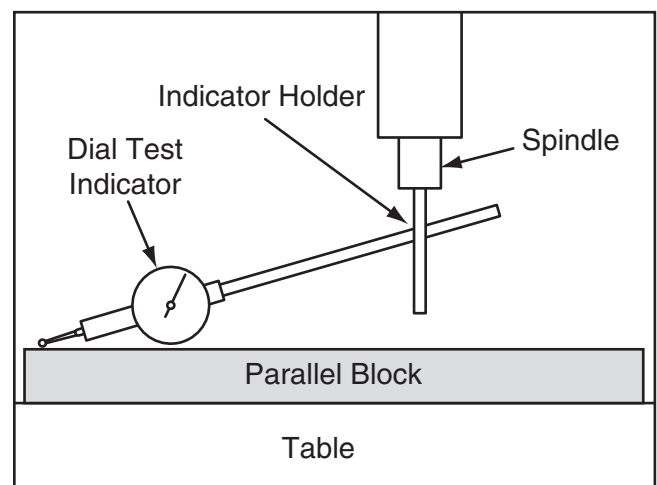

Figure 70. Dial test indicator mounted.
4. Install the indicator holder in the spindle or on the quill, then mount the indicator so that the point is as parallel to the block as possible (see the illustration in **Figure 70**).
- Rotate the spindle by hand so that the indicator point rests on one end of the parallel block, as illustrated in **Figures 70–71**, then zero the dial.